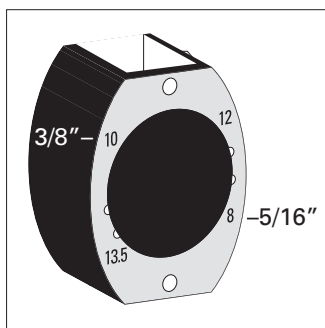

Figure 10
- A. Take the Floor Guide (#9) and make sure it is set to the proper glass thickness. Look on the bottom side and adjust if needed by pressing the black plastic out and rotating the notch into the proper spot based upon the glass thickness. For 5/16" thick glass use 8 and for 3/8" glass use 10. Then set it on the tub/shower curb next to the Fixed Glass Panel (#5) so you can reach it to mark the holes with the pencil as you set the Sliding Door Panel #6 (see Figure 10).